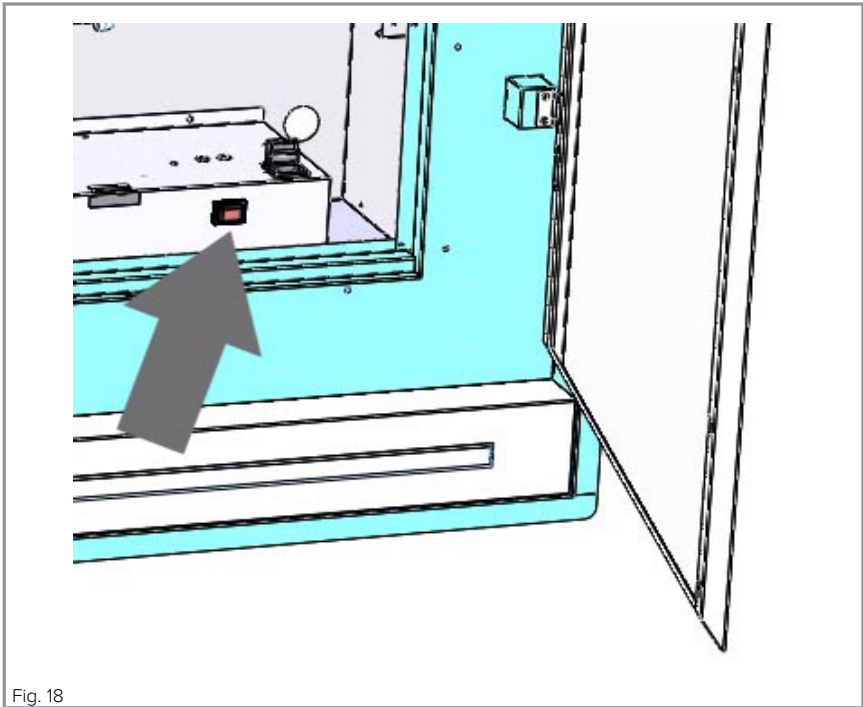

Fig. 18
3. Check that the red power switch on the panel next to the motor has not been turned off (Fig. 18).